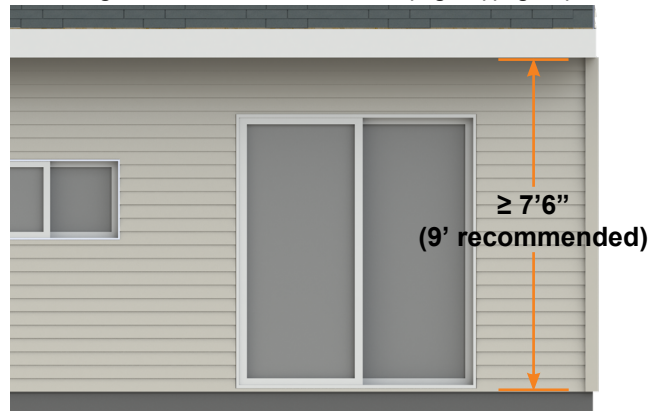
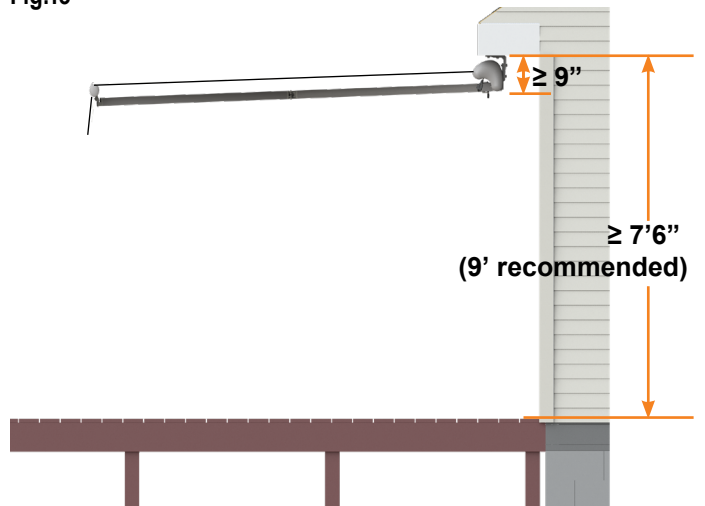

Fig.13
Fig.14
• Measure the height from ground to the underside of underhang/soffit intended for installation. There must be at least 7’6” from the ground/deck to the underside of the underhang/soffits to allow for headroom under the awning, but 9’ is recommended (Fig. 13)(Fig. 14).